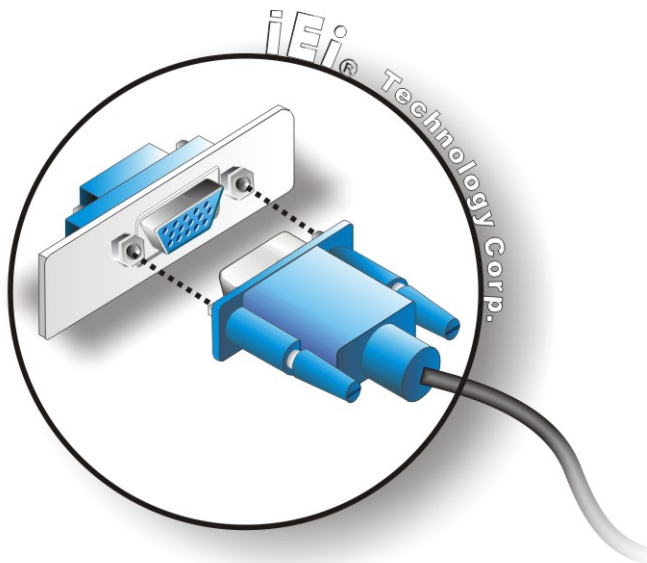

Figure 4-15: VGA Connector
Step 3: Insert the VGA connector Once the connectors are properly aligned with the insert the male connector from the VGA screen into the female connector on the IOWA-LX-600. See Figure 4-15.